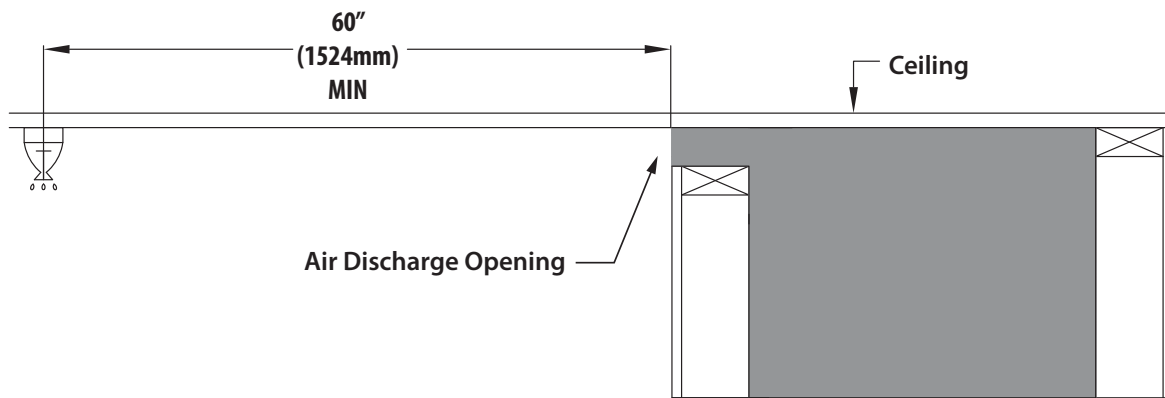

Figure 3.14, Clearance from Air Discharge Opening to Sprinkler Head
- In a situation where a sprinkler head is installed within the proximity of a vented cavity air discharge opening, Figure 3.14 MUST be followed.